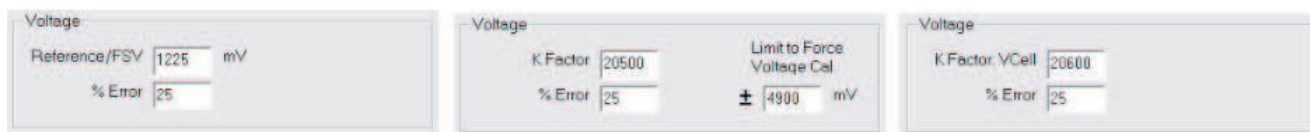

Figure 7. Reference/FSV and K-Factor Fields
1. **Reference/FSV:** The tester calibrates the voltage gain by manipulating the Full Scale Voltage Reference. Do not change the values in this field. The **Voltage** frame looks the same for most of the parts, except for the bq306x. For bq306x device-based parts, extra K-factor fields appear. The frame for K-factor-based parts are shown in Figure 7.
If the percent difference between the two values is more than 25%, then it fails the calibration because it assumes something must be grossly wrong to get a value more than 25% from the nominal. As shown in Figure 7, bq306x device-based parts show limits to voltage calibration in $\pm$ mV. In this case, if the voltage read by the device is within this limit, no calibration is done. Precious time is saved (~4s) during calibration if voltage calibration can be avoided. In the case where voltage calibration is always needed, a 0 can be entered in this field.